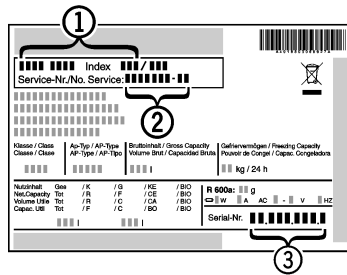

Fig. 9
- ▶ Read the appliance designation *Fig. 9 (1)*, service no. *Fig. 9 (2)* and serial no. *Fig. 9 (3)* from the rating plate. The rating plate is located inside the appliance on the left-hand side.
- ▶ Notify the Customer Service department, specifying the fault, appliance designation *Fig. 9 (1)*, service no. *Fig. 9 (2)* and serial *Fig. 9 (3)* no.